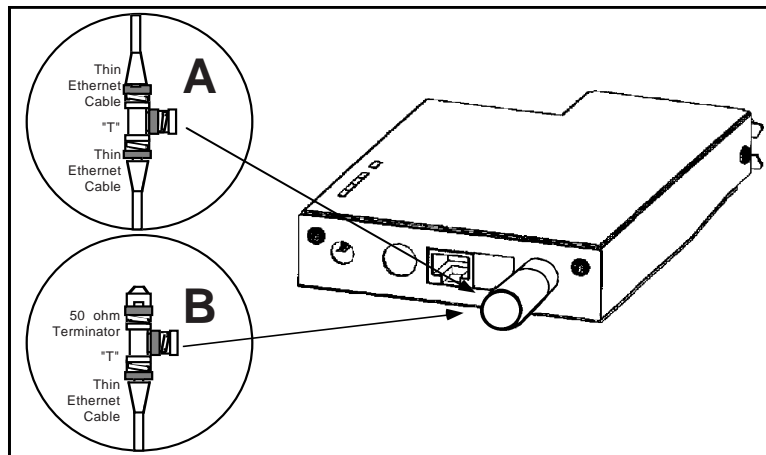

Figure 2-5
1. Connect one section of the thin Ethernet cable to one end of the "T" connector as shown in figure 2-5.